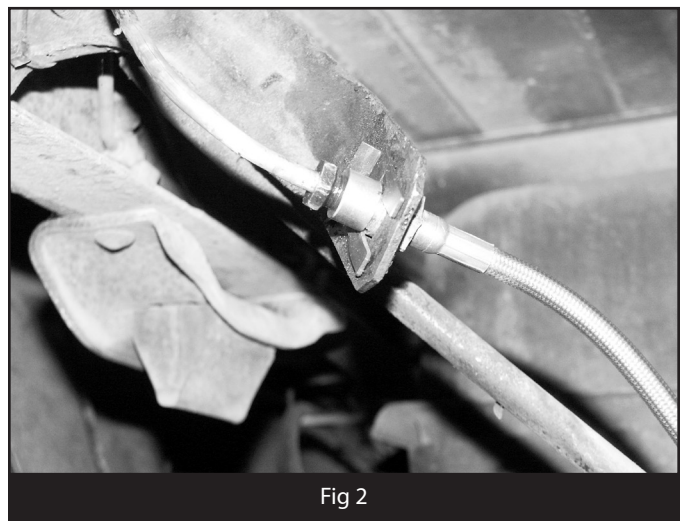

Fig 2
8. Retain the brake line at the frame with the provided retaining clip (Fig 2).